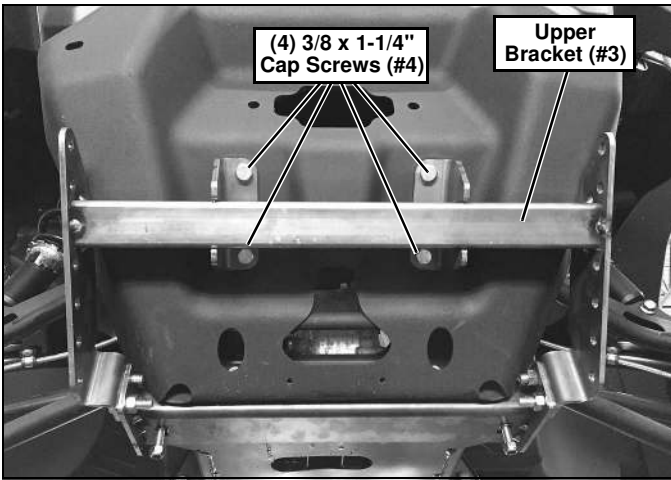

Figure 7
7. Align the (4) winch mount holes in the bumper/brush guard with the (4) top holes in the Upper Bracket (#3). Insert (4) 3/8"-16 x 1-1/4" (#4) Cap Screws into the Upper Bracket (#3) holes and thru the bumper/brush guard. Secure with (4) 3/8"-16 Lock Nuts (#6). (See Figure 7.)